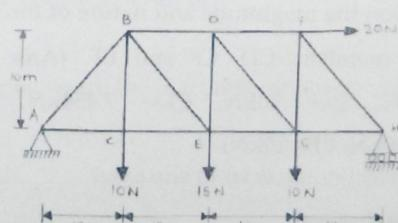

Fig 2.97
- 1) Find the force in the members DG, DF and EG for given fig 2.97